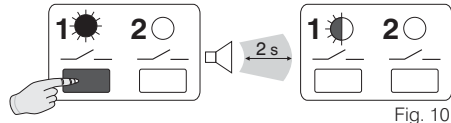

Fig. 10
- Hold down **key 1** until a single acoustic signal sounds; then release it: **LED 1** is flashing (fig. 10). The new transmitter is coupled to the receiver.